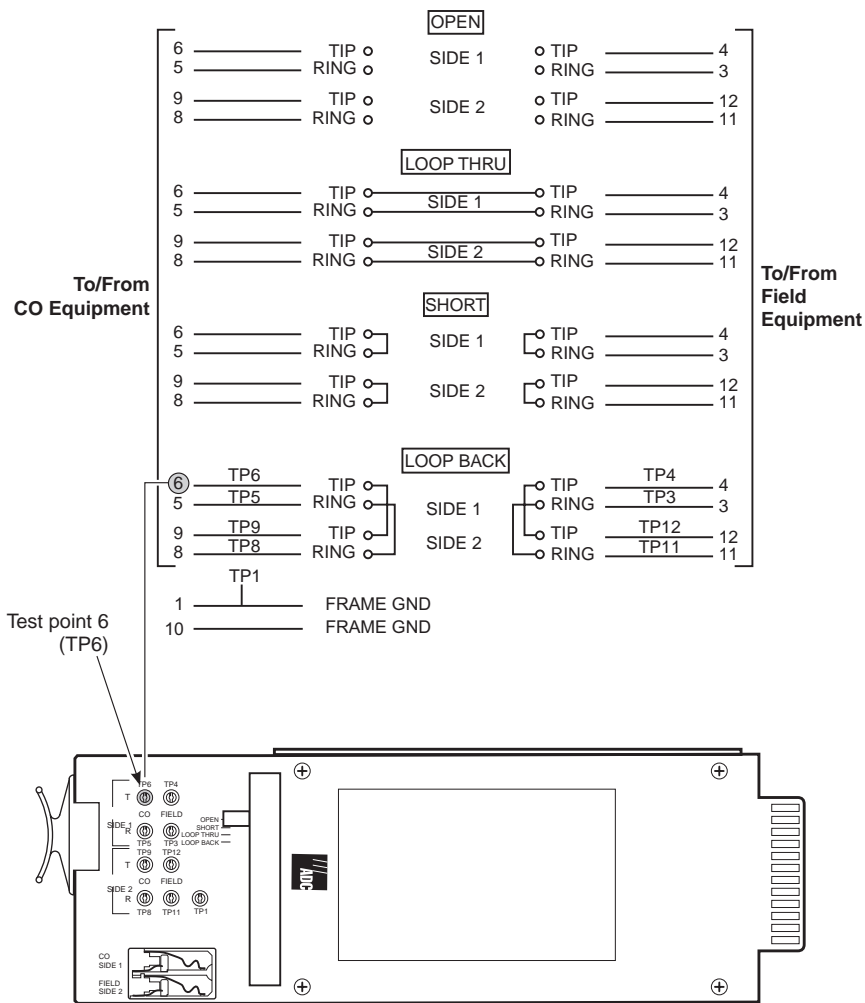

Figure 2. HTC-439 List 2 Test Connections
- 2 Connect to test points as applicable. The connections of Tip and Ring pairs of CO and field circuits for each setting of the switch are listed in Table 1 on page 4 and illustrated in Figure 2 on page 5. (Pin numbers correspond to the edge connector pins for each circuit.)